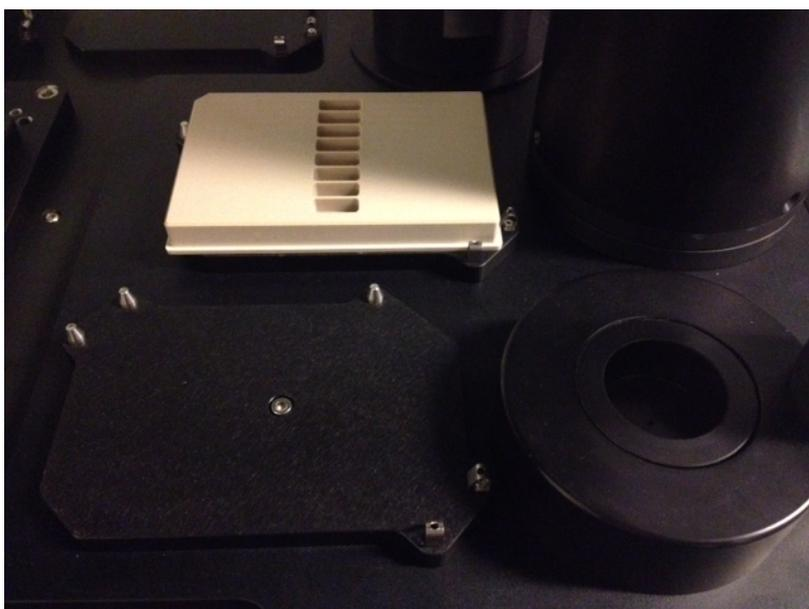

Figure 77 Placing the ccCTP
- Place the ccCTP on the worktable in the standard CTP slot (see Figure 77), and close the cabinet door